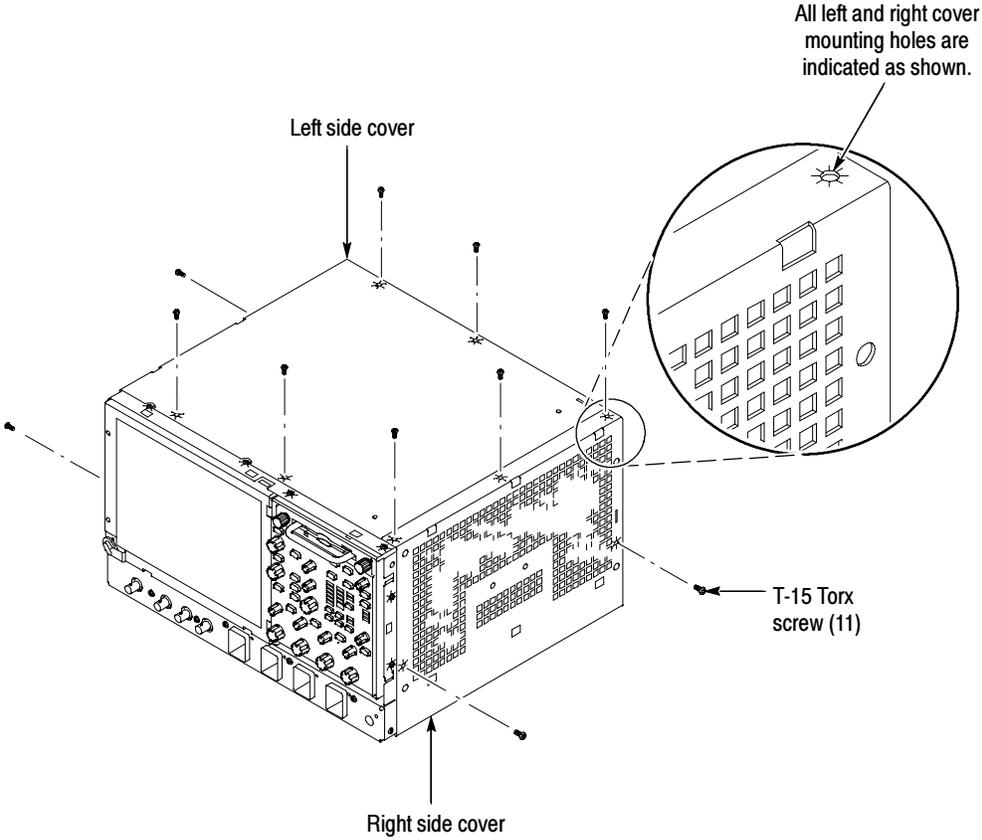

Figure 2-4: Cover removal
1. *Remove the left and right covers:* See Figures 2-4 and 2-5 on pages 2-7 and 2-8.